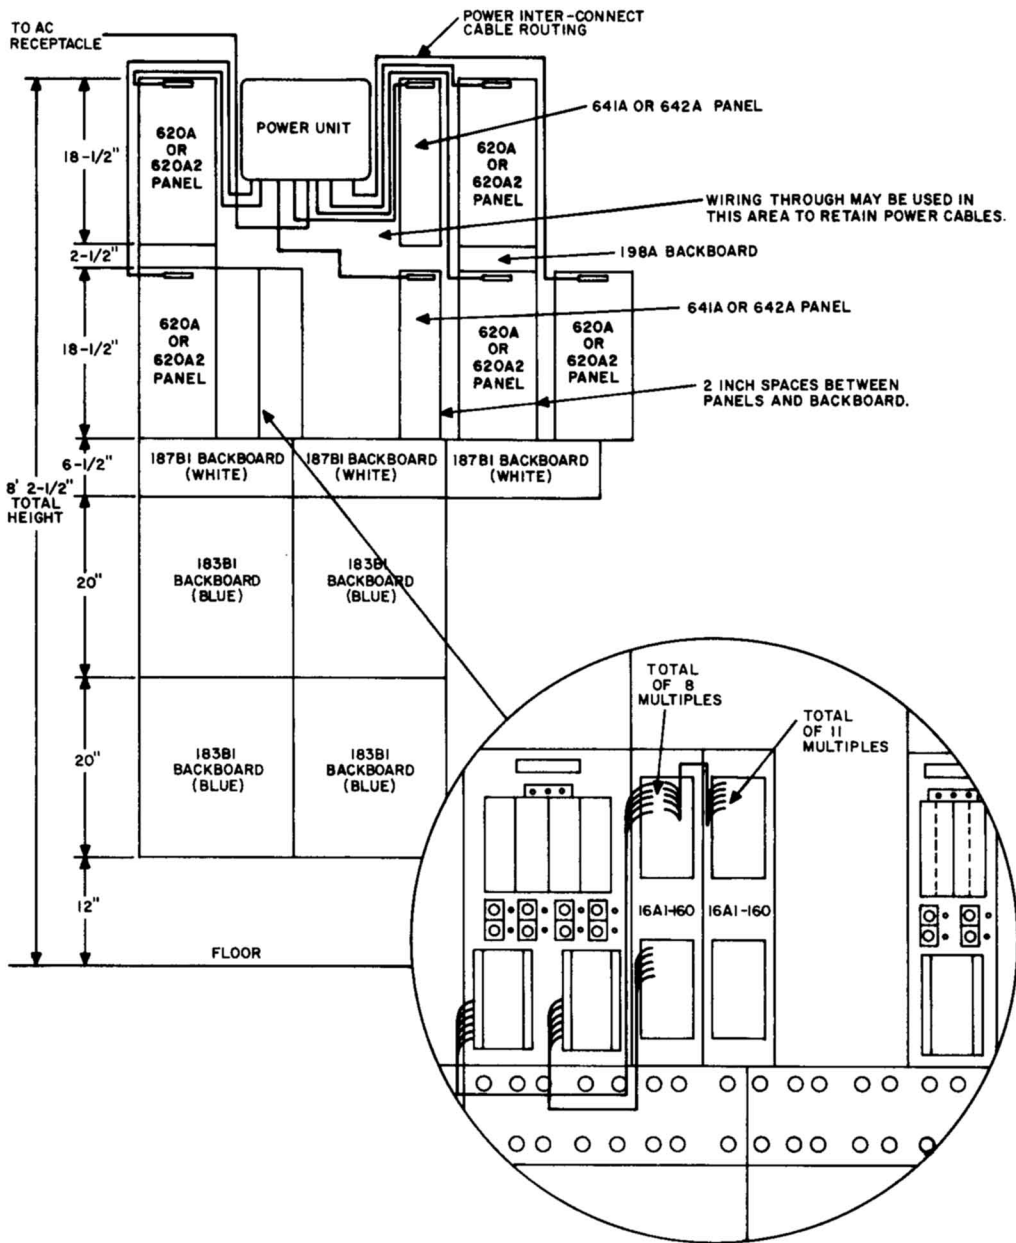

Fig. 9—Stacked Modular Apparatus and Method of Terminal Multiplying Using 16A1-160 Terminal Blocks
3.11 Where modular panels must be stacked one above the other, the following installation method is recommended (Fig. 9 and 10).
- **16A1-160 terminal block**—for additional line service terminations in excess of 620A-type or 642A panel capacity (Fig. 9).